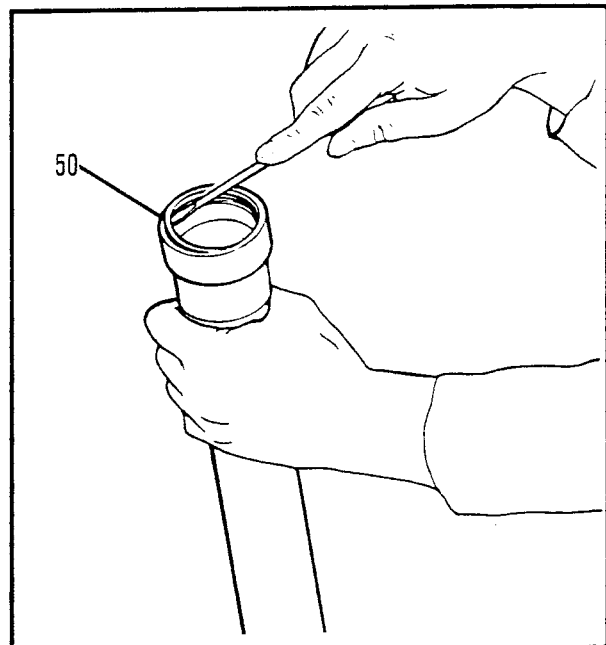

Figure 5-16. Circlip Removal
- See Figures 5-16, 5-17. To remove the oil seal (51) first remove the circlip (50) with a screwdriver by exerting pressure under it. Then exert pressure under the oil seal itself until it comes out completely. Be careful not to scratch its seat in the slider.